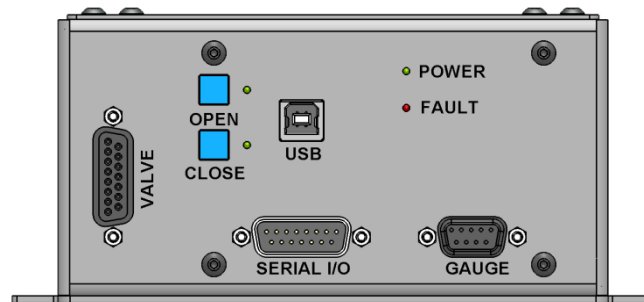

Figure 3.1 – Front Panel
- Figure 3.1 – Front Panel Picture
Figure 3.1 below shows the front panel of the 98 Series Universal Valve Controller. **Table 3.1** explains the function of each component.